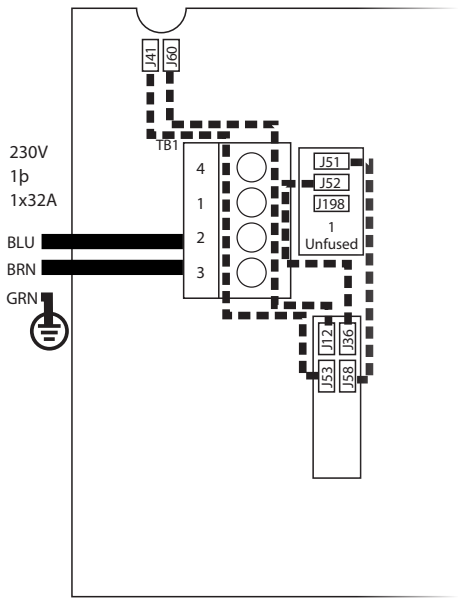

Figure 1
### AS MANUFACTURED – SINGLE SERVICE (Figure 1)
- 1. Remove all jumper wires as indicated by dotted lines in Figure 1 (previous page).